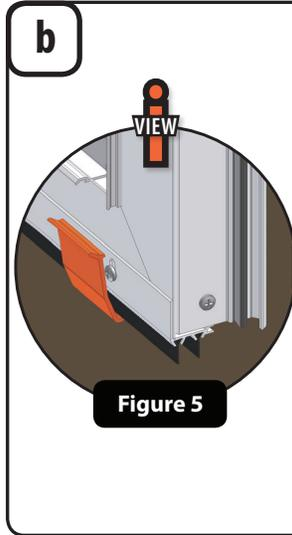

Figure 5
1. To determine the exterior and interior of the door panel: at the bottom of the door, the interior side has a sweep with screws (Figure 5). The exterior is the side without a sweep and screws.